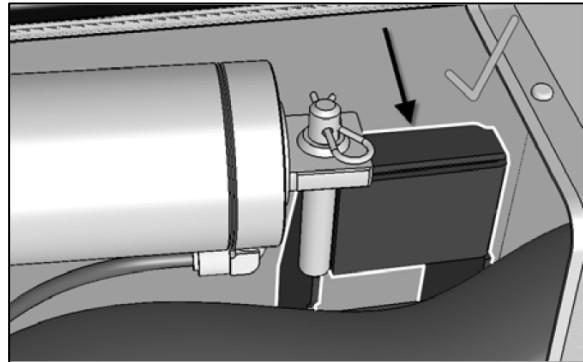

Figure 3
2. Inspect the aft cylinder anchor bracket and pin. Make sure the welds and bracket are structurally sound before undergoing any work. (Fig. 3)
6. Remove hitch pin (Fig. 3) and cylinder rod end cap screw (Fig. 4), remove pneumatic cylinder from support.